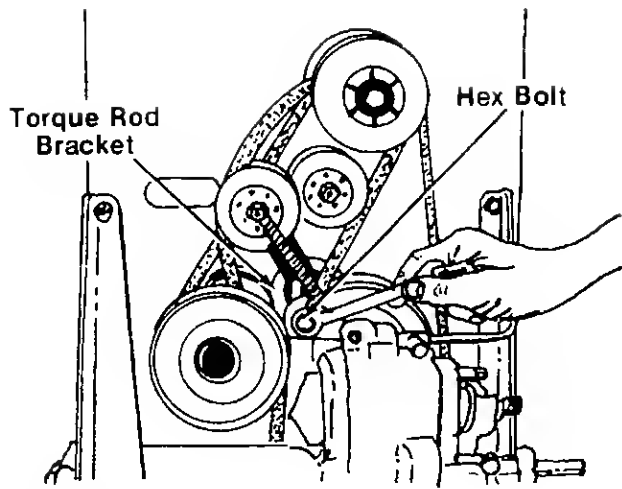

FIGURE 23.
7. Remove the hex bolt which holds the torque rod bracket to the torque rod, and remove bracket. See figure 23.